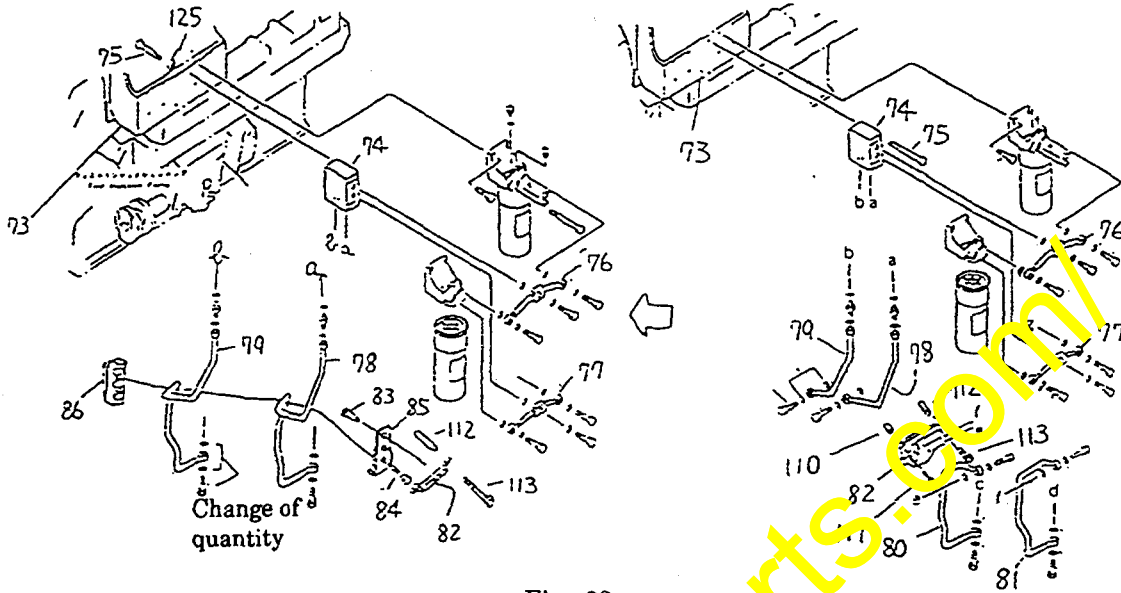
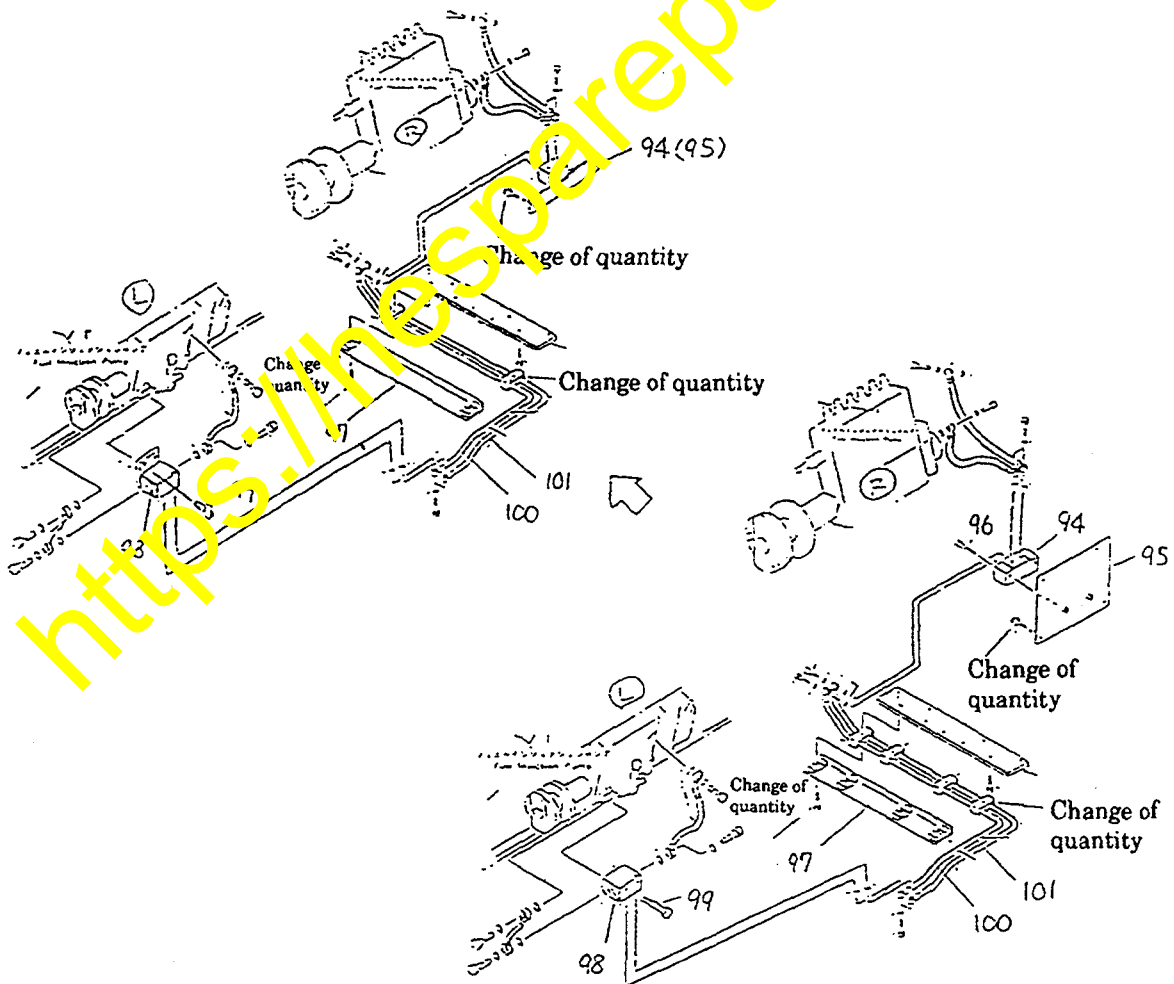

Fig. 38
Fig. 39
⑦ Common fuel piping on D475A-2 (Fig. 38, Fig. 39)
(This drawing is the same as Fig. 38)